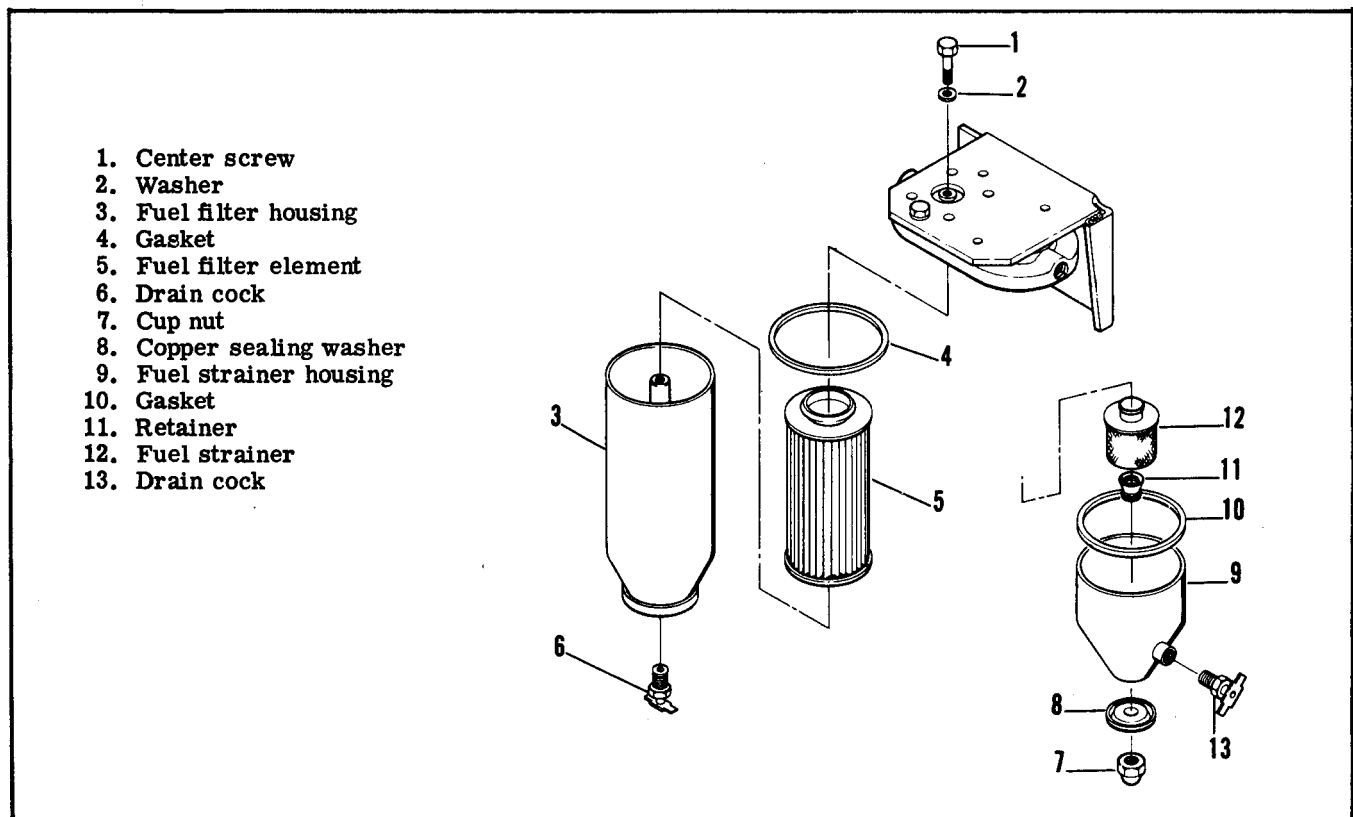

Figure 3-4. Servicing Fuel Strainer and Filter Housing
(1) Open the drain cocks on the fuel strainer housing and the fuel filter housing and allow the fuel to drain into a suitable container.
(2) Remove center screw (1, figure 3-4) and washer (2) to remove fuel filter housing (3) and gasket (4). Discard gasket.
(3) Withdraw filter element (5) from housing and discard
(4) Do not remove drain cock (6) unless replacement is necessary.
(5) Remove cup nut (7) and sealing washer (8) to remove strainer housing (9) and gasket (10).